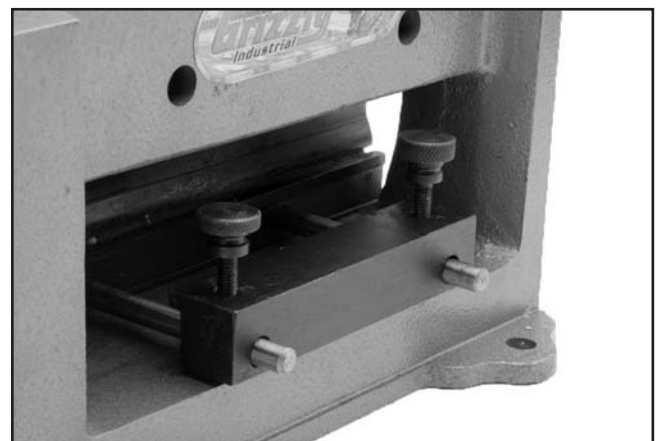

Figure 13. Rear stop.
1. If you chose to use the opposite finger receiver V-groove which is a different size, loosen the lock knobs and slide the rear stop off of the support rods (**Figure 13**).